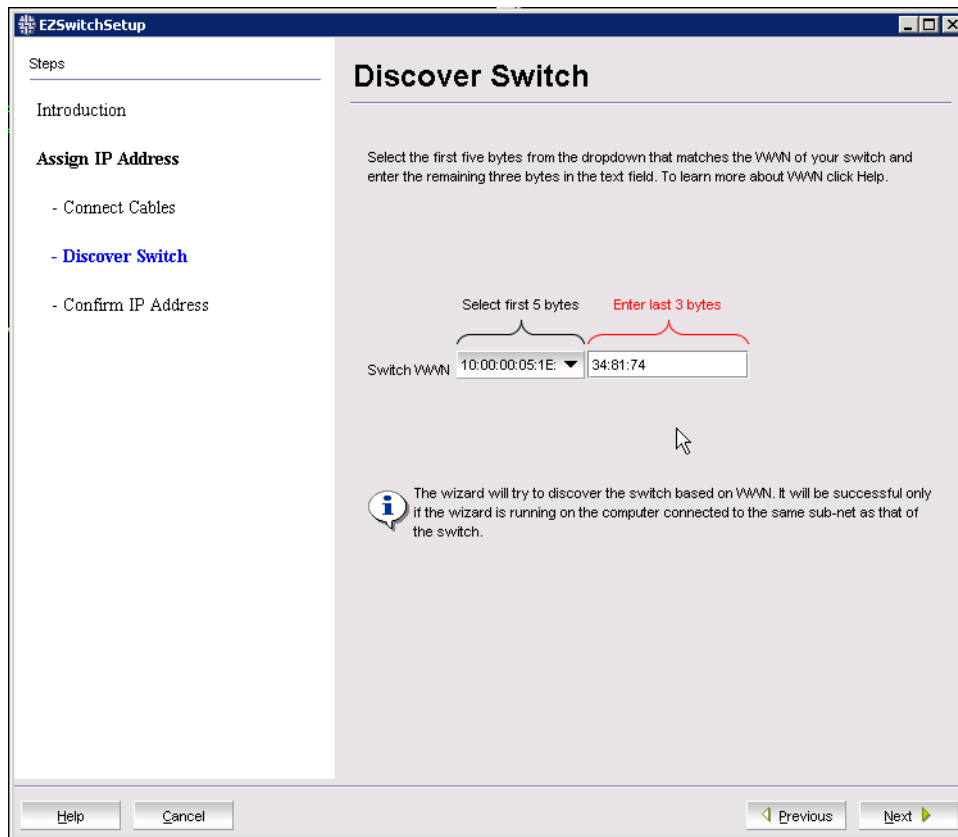

Figure 6-8 EZSwitchSetup - Discover Switch
3. Click **Next**, and the software starts a discovery by entering the switch WWN as shown in Figure 6-8. When the switch is found, you can move to the next panel by clicking **Next** again.